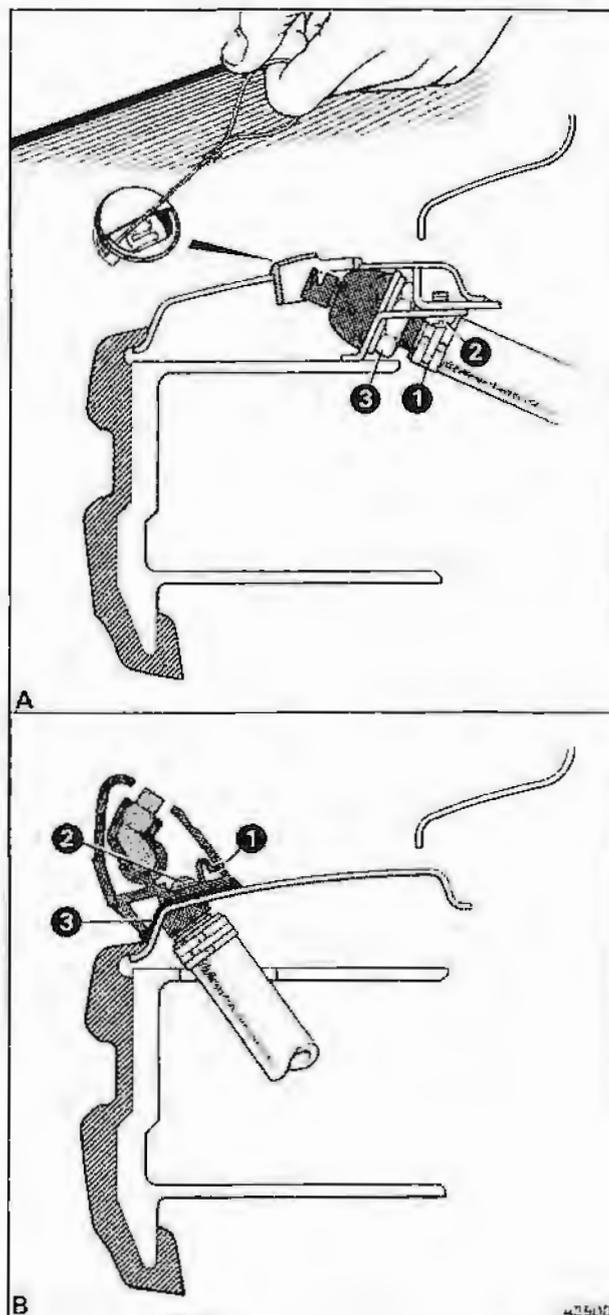

Fig. S10-2 Headlamp power wash jets
4. To disconnect the headlamp power wash hoses (if fitted) proceed as follows referring to figure S10-2.
(see fig. S10-2)
Headlamp power wash jets – To adjust (see fig. S10-2)
Note If the bumper is fitted with energy absorption units and the type of power wash jets shown in figure S10-2, inset A, a clearance of approximately 5mm (0.20 in) must exist between the top of the bumper finisher and the front wing panels. This clearance will allow the bumper to retract without damaging the power wash jet covers.